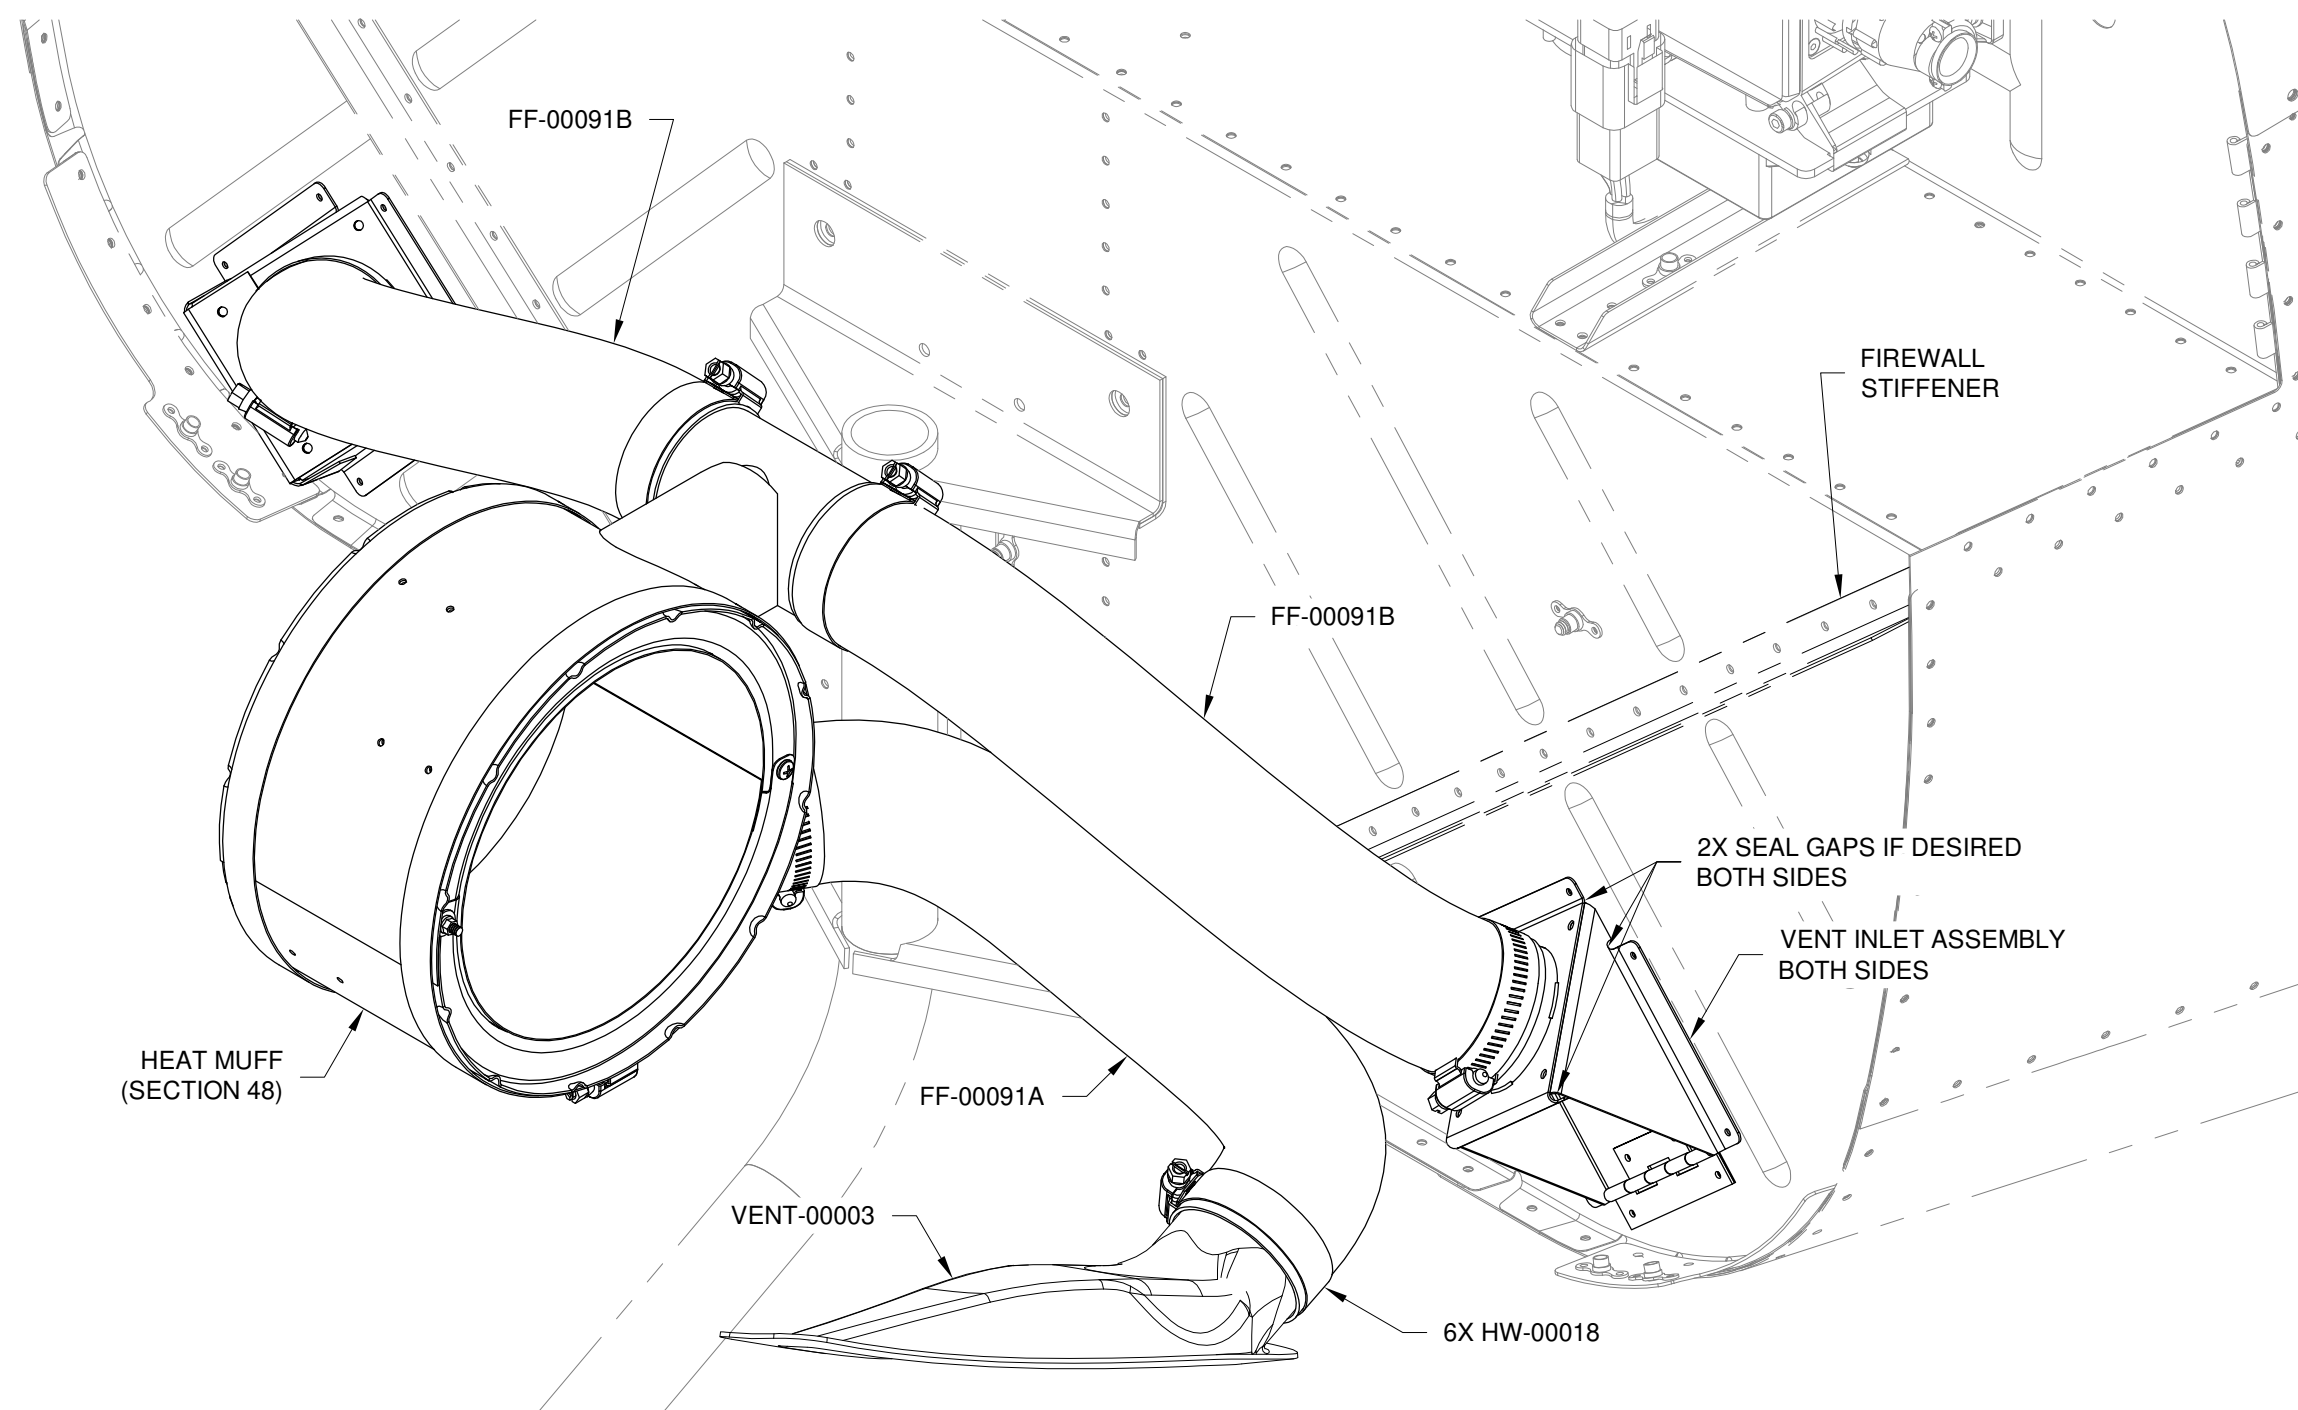

FIGURE 1: ATTACH HEAT MUFF HOSES
Step 3: Connect the FF-00091A & B to the heat muff as shown in Figure 1. If required, reduce the length of the FF-00091A to eliminate interference with the left firewall stiffener.
Step 4: Connect the two FF-00091B to the two Vent Inlet Assemblies as shown in Figure 1.
Step 6: If desired, seal any gaps in the Vent Inlet Assemblies with RTV as shown in Figure 1. This will increase heater performance.